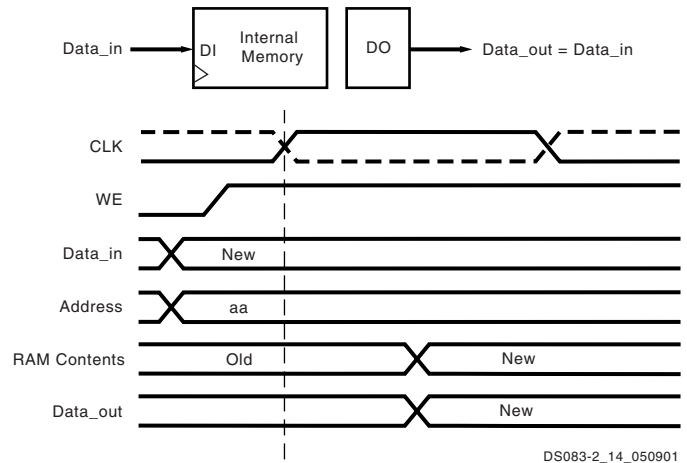

Figure 40: WRITE_FIRST Mode
The WRITE_FIRST option is a transparent mode. The same clock edge that writes the data input (DI) into the memory also transfers DI into the output registers DO, as shown in Figure 40.